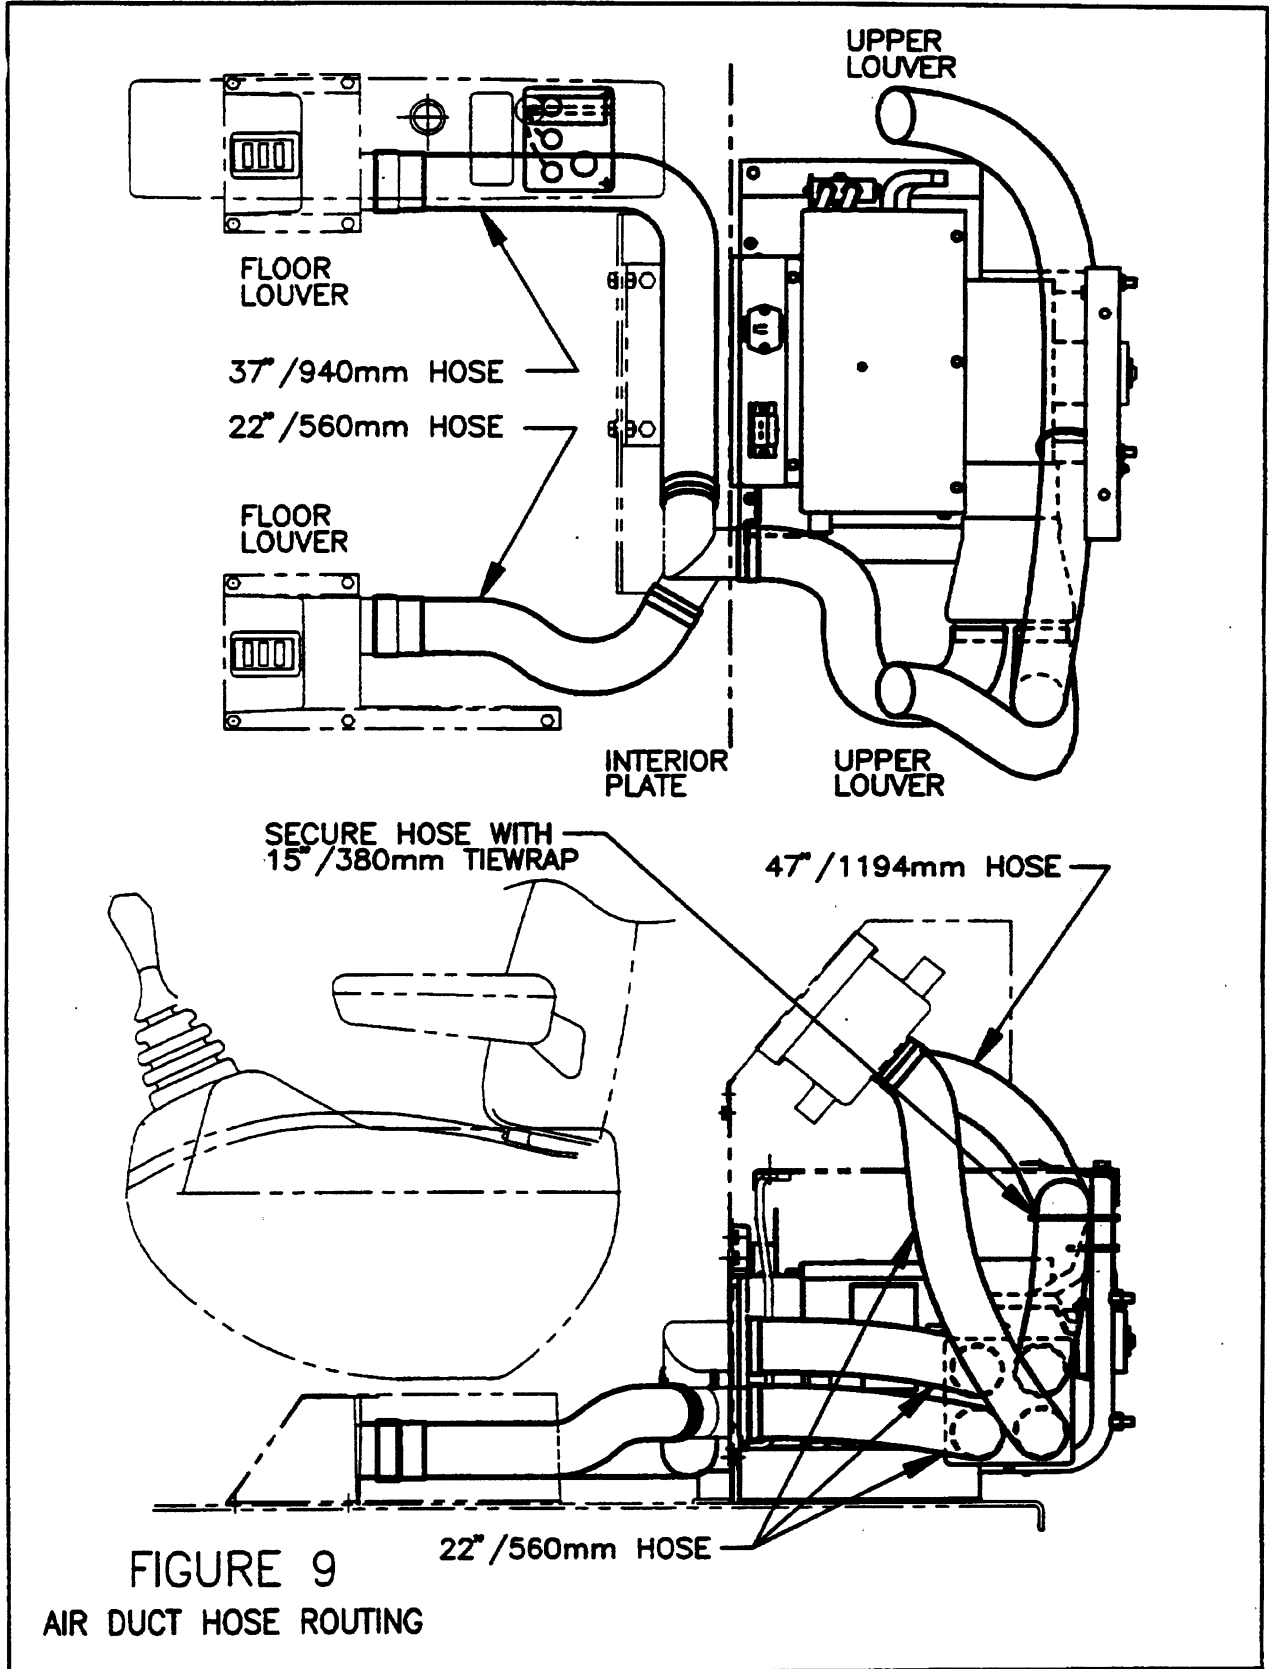

FIGURE 9
5. Attach air duct hoses to upper louvers as shown in Figure 9. Secure 47"/1194mm hose to base as shown to prevent interference with blower control rod.
7. Attach filter frame assembly to replacement interior access plate using (4) M8 x 16mm long bolts with lock washer and washer.
8. Connect air duct hoses to back of plate as shown in Figure 9.